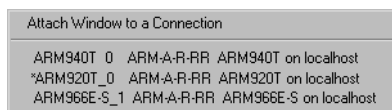

Figure 5-9 Connection menu
In the Code window, click on the drop-down arrow on the **Cycle Connections** button, to display the **Connection** menu, shown in Figure 5-9.
Toggle this menu option on or off to control the attachment of the current Code window. When the window is unattached, this option is unchecked, as in Figure 5-9. The Code window title bar reflects the unattached state of the window, for example:
- Click on the **Cycle Connections** button drop-down arrow to display the **Connection** menu, shown in Figure 5-9 on page 5-20. Select the required connection from the list of active connections. This connection then becomes the current connection.